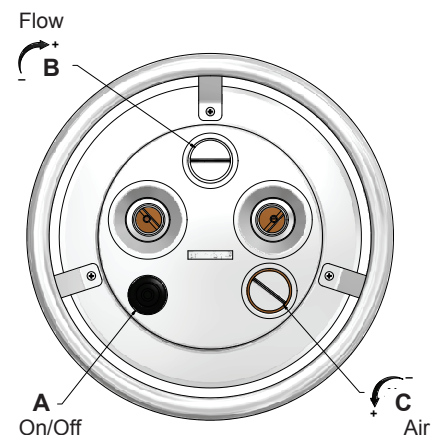

Figure 1.
8. Make sure that the pump's direction of rotations is consistent with that of the system. Open the valves. Completely fill the pump with water before starting it with the push-button(A fig.1) on the stainless steel front.
9. The flow can be controlled with the knob (B fig. 1) above the outlet nozzles. Air can be added to the water streams using the knob (C fig. 1) below the outlet nozzles.
The Jet Swim pump is started and stopped by air impulse via the pushbutton (A) on the stainless steel front; see figure 1.
The flow of water can be controlled using the knob (B) above the outlet nozzle; see figure 1.
Air can be added to the water streams using the knob (C) below the outlet nozzles; see figure 1.